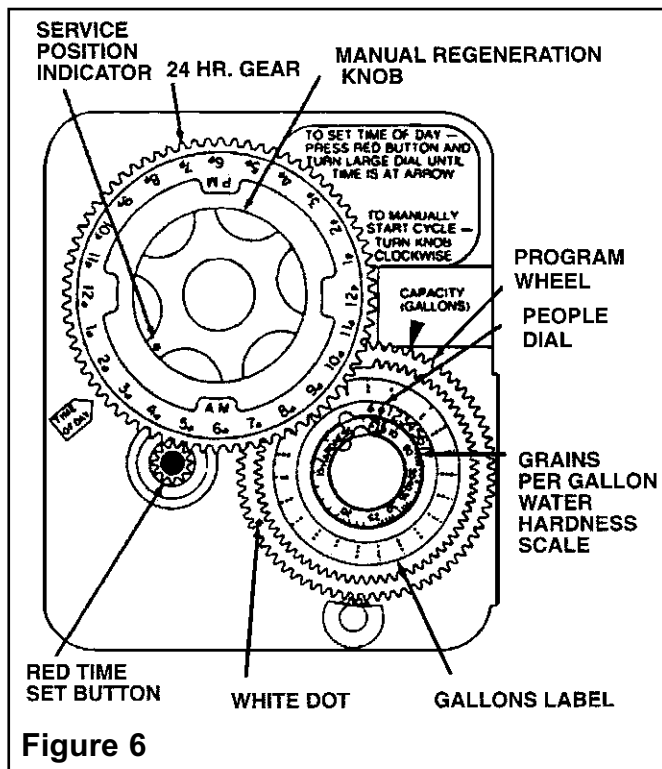

Figure 6
- Manually turn the manual regeneration knob to the backwash position. (See page 4, Figure 6) Slowly turn on the water supply to the valve until all the air clears. Allow the water to run to the drain for 2 to 3 minutes or until the water is clear.